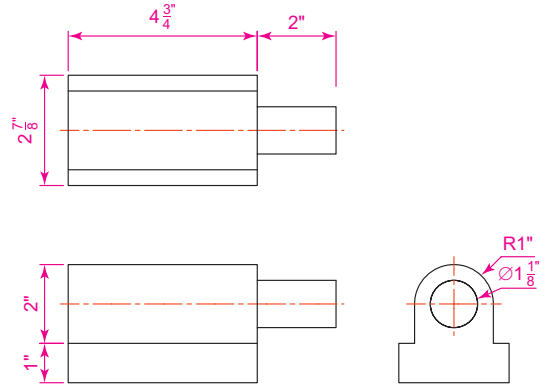

Fig. 8.27 Exercises 2 and 3
2. Fig. 8.27 is a first angle orthographic projection of the other part of the fitment. Construct a three-view third angle orthographic projection of the part.
3. Construct an isometric drawing of the part shown in Fig. 8.27.